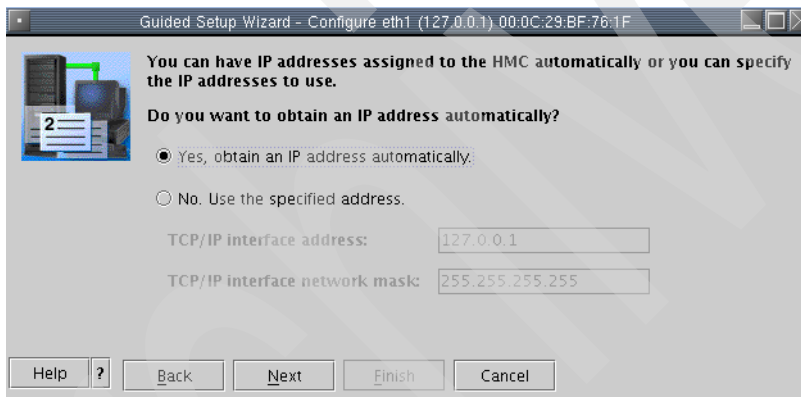

Figure 4-22 Guided Setup - Configure eth1 IP address
22. The Guided Setup Wizard - Configure eth1 panel is now shown (Figure 4-22). You can configure the eth1 interface to use a fixed IP address or obtain one automatically from your open network DHCP server.